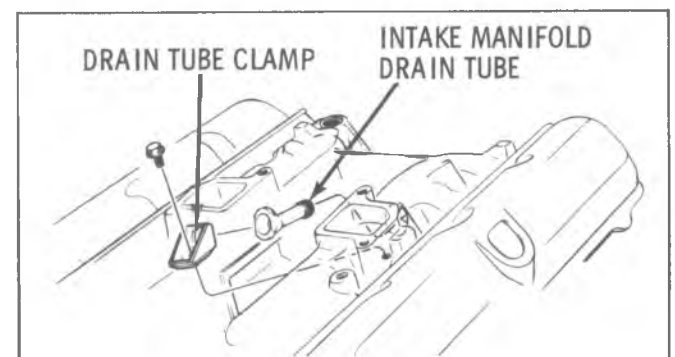

Fig. E-25—Intake Manifold Drain Tube
5. Install drain tube. (Fig. E-25)